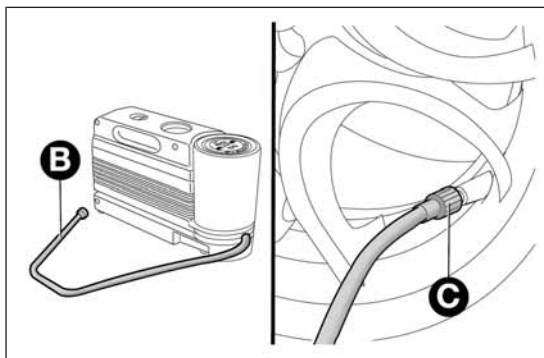

fig. 129
- ☐ engage the handbrake, unscrew the tyre valve cap, take out the flexible filler pipe A fig. 129 and tighten the ring nut B on the tyre valve;